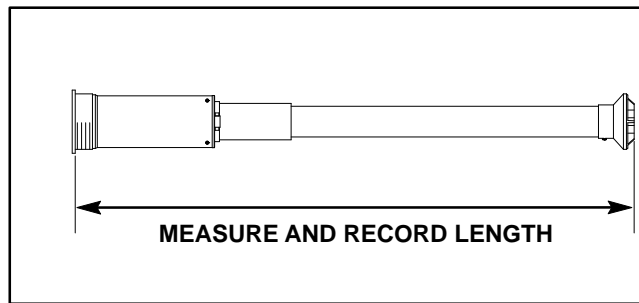

Figure 29
3. Remove fork (item 17) and filter adapter (item 12) from tank.
6. Remove filter bulkhead nut (item 22) and lift suction tube assembly from spray tank. Discard all removed O-rings and gaskets.
7. Measure and record the length of suction tube prior to disassembly (Fig. 29). Disassemble suction tube suction filter assembly as needed.
1. Assemble suction tube. Make sure that assembled suction tube length is the same as the length recorder during disassembly (Fig. 29).
2. Guide suction tube assembly into spray tank and install filter bulkhead nut. The bottom of the suction foot should be less than **1/2 inch (12.7 mm)** from floor of spray tank after assembly. Loosen hose clamp (item 23) and adjust suction tube if necessary.
5. Install filter adapter (item 12) and fork (item 17).